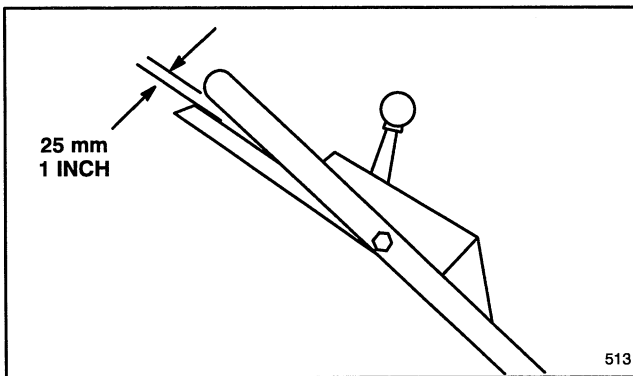

Figure 23
3. CHECK ADJUSTMENT—Slowly pull mower backward while control bar is gradually moved toward handle. Adjustment is correct when rear wheels stop turning and control bar is about 25 mm (one inch) from handle (Fig. 23) and wheels start to turn freely.